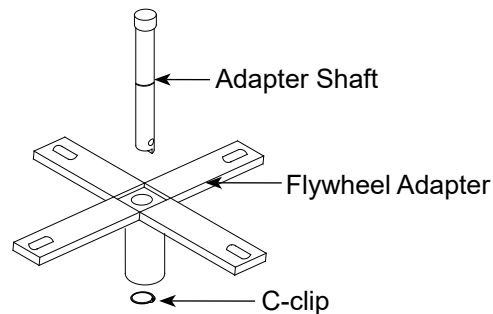

Figure 3 - Flywheel adapter assembly components
**Note:** Flywheel adapter assembly includes adapter, a shorter adapter shaft, and a C-clip (Fig. 3).